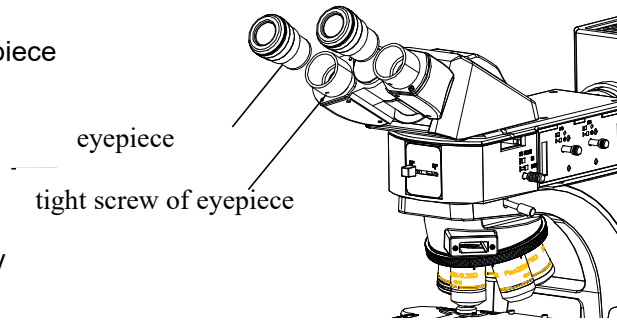

Fig.8
3. Using S2 inner six angle screwdriver to screw up the tight screw of eyepiece gently, to ensure the eyepiece can be adjusted properly without be pulled out(Fig.8).